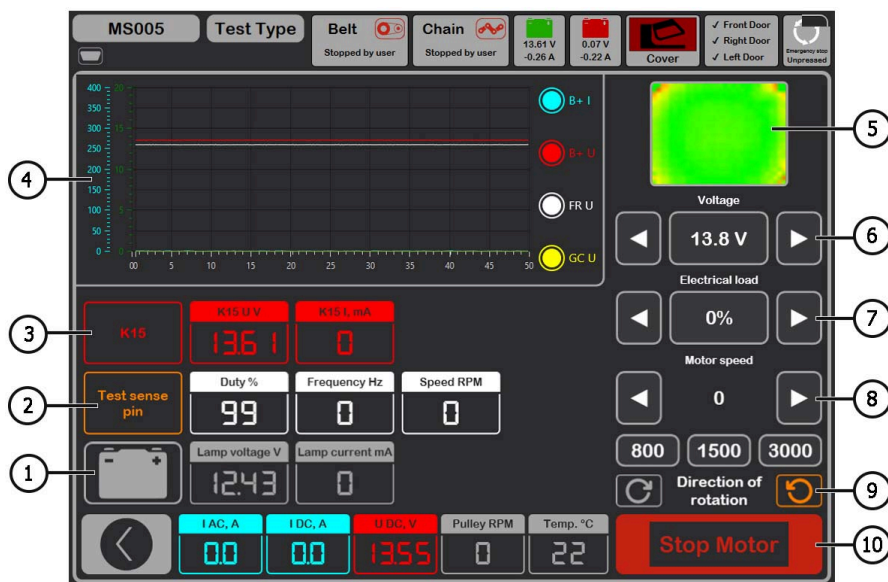

Figure 23. Alternator Test Mode Menu
During the diagnostic mode of any type of alternator, the following information may be displayed on the screen (see Figure 23):
4.2. If the alternator has a control lamp, the indicator of the control lamp should light up (see item 1 in Figure 23).
6.2*. Using the output voltage control buttons (see item 6 in Figure 23), smoothly adjust the alternator's output voltage within the range from minimum to maximum. The measured voltage should change proportionally.